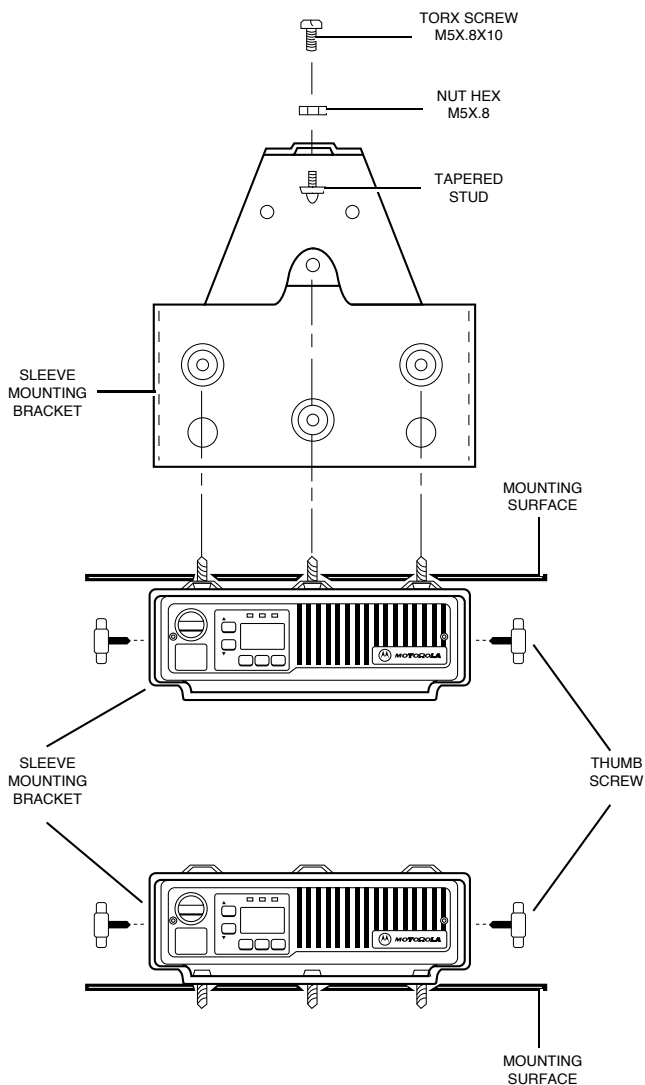

Figure 5. Sleeve Mount for Radio
- [1] Select the location to mount your radio either ON THE DASH or BELOW THE DASH (see Figure 5).
- [6] Install the tapered stud and nut in the rear hole of the sleeve-mounting bracket as shown in Figure 5.